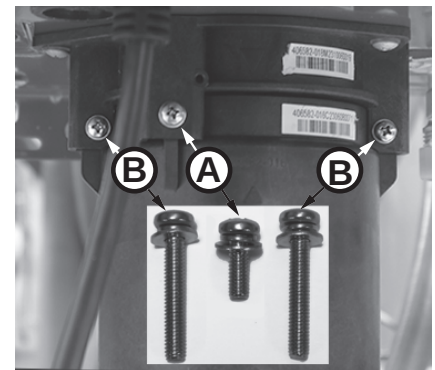

Figure 196 - Identify cartridge screws
- 5** Locate the three (3) screws securing the X3®/Bypass cartridge as shown in Figure 196. Remove the **(A)** M4-12mm screw and the two **(B)** M4-25mm screws from cartridge. Place screws aside in a safe place for reinstallation.